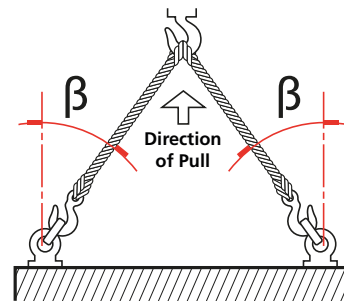

Fig 7.1 Lifting (single-acting actuator up to size 161)
- In case of single-acting actuator, hook the chain sling and textile sling on the lifting lugs, as shown in Fig 7.1